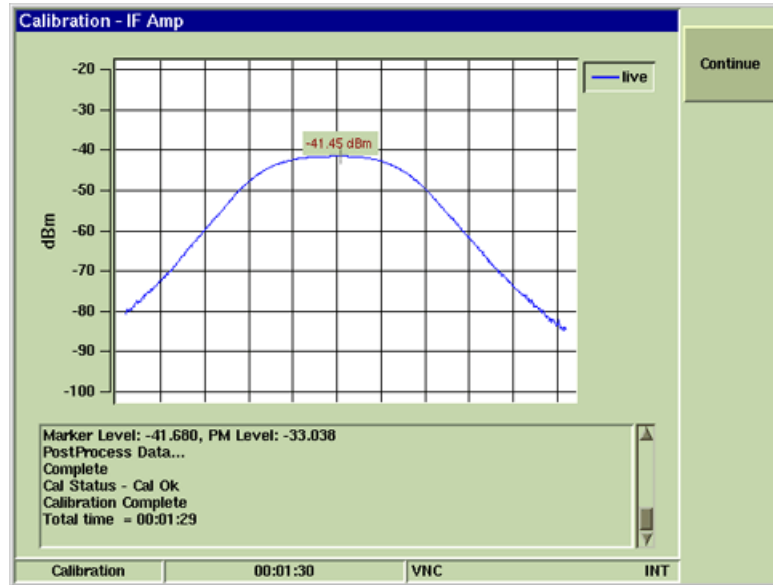

Fig. 4-21 IF AMP Main Cal Signal Trace
- When the Main Cal portion of IF AMP Calibration Procedure is complete, verify Calibration Complete is displayed in dialog box. Verify signal trace on Test Set resembles signal trace shown in Fig. 4-21.